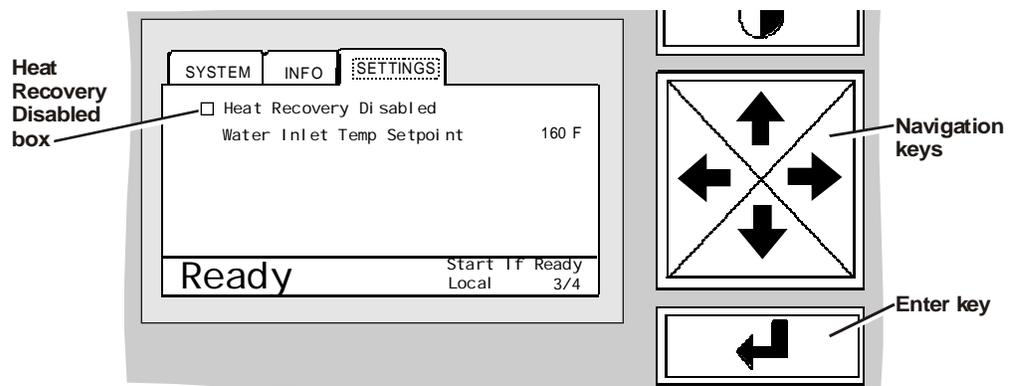

Figure 29. Heat recovery mode in Settings folder
- 2 If the Settings folder is not visible, display it by pressing the right or left navigation key (Figure 29).
- 3 Press the down navigation key until settings page 3 appears (Figure 29).